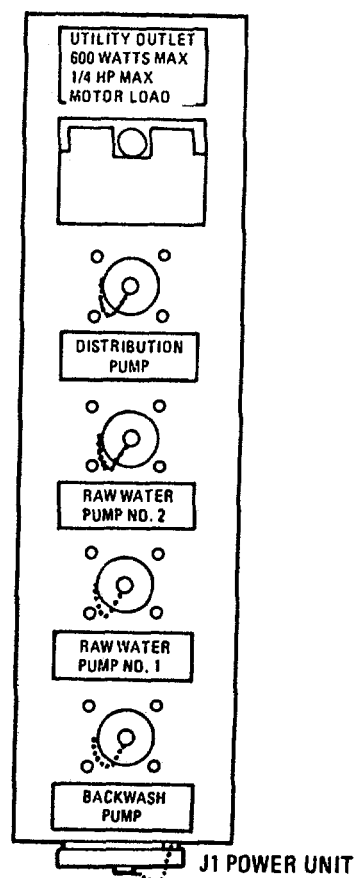

FIGURE 2-37. JUNCTION BOX
(26) Unwind the power cables of each pump. Pull the cables to the ROWPU junction box and unscrew the covers of the connectors. Attach pump cables to the connectors shown in figure 2-37. Plug the power cable from the power source into J1, if not already installed. (Army, MC only)